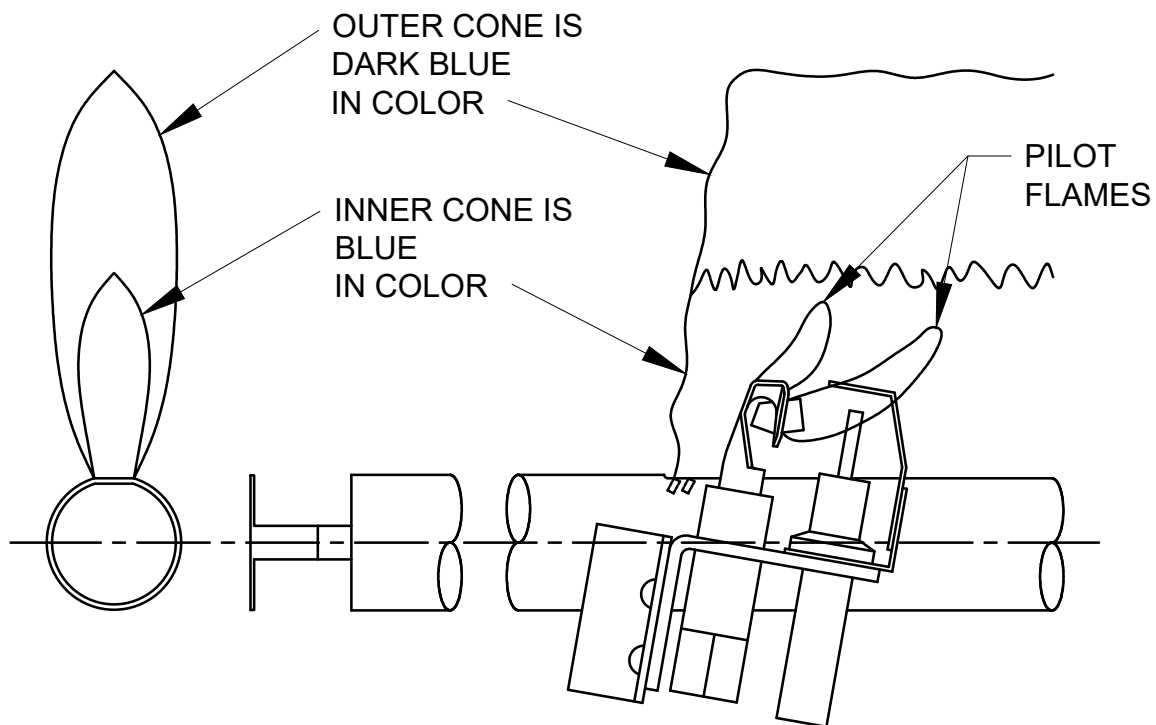

Figure 9.1: Intermittent Pilot and Main Burner Flame
3. Check the pilot and main burner flame. See Figure 9.1. The pilot should provide a steady flame enveloping $3/8''$ to $1/2''$ (1 cm to 1.2 cm) of the flame sensor. If required, adjust the pilot as stated in the gas valve manufacturer's instructions. The main burner flame inner cone should be approximately $1-1/2''$ (4 cm) high and should have a very sharp, blue color characteristic. On LP gas models equipped with air shutters, see Section 7 and Figure 7.9 for checking and adjusting air shutters.